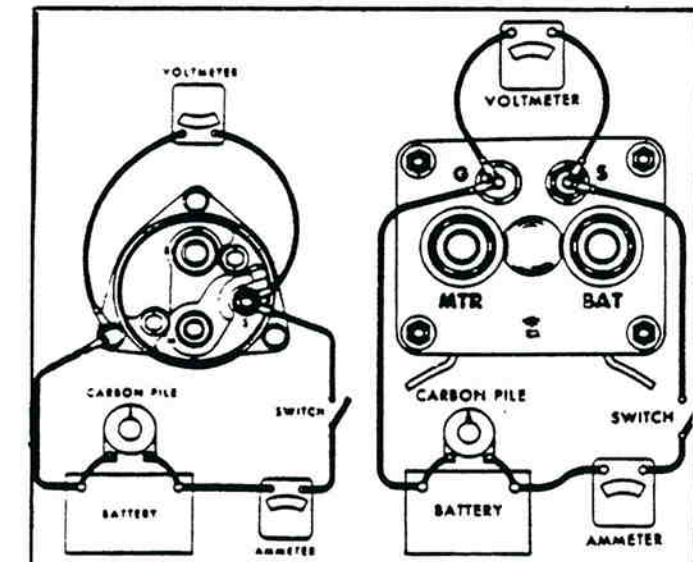

Figure 7-40. Checking Solenoid Hold-In Winding.
16. As shown in figure 7-40, make connections to the "S" terminal and a clean metal ground. If needed, use the carbon pile to decrease the battery voltage to the value specified in the following table and compare the ammeter reading with the hold-in winding specifications. A high reading indicates a defective winding (shorted or grounded hold-in) or a grounded pull-in, and a low reading indicates excessive resistance.